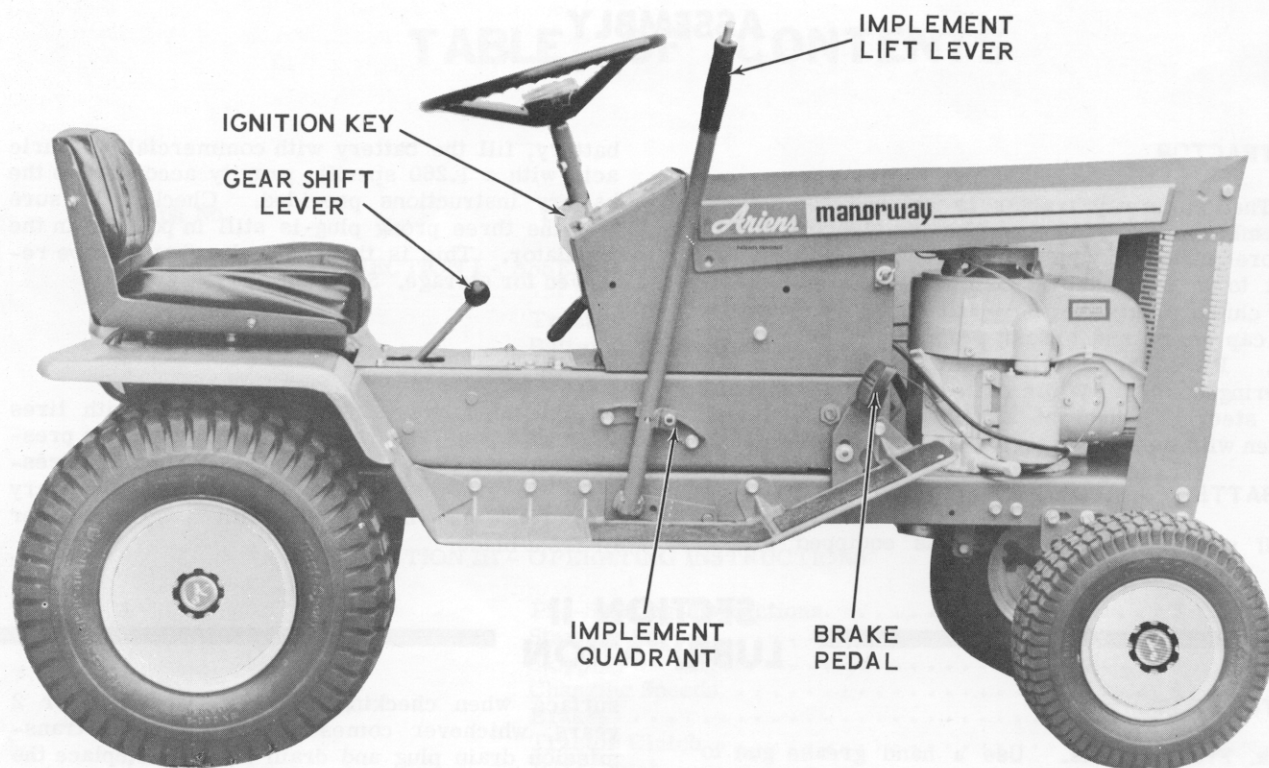

Figure 3
b. Depress the brake pedal and engage the parking brake. See figures 3 and 4.
Brakes are actuated by the pedal on the right side of the machine. If the tractor is to be stopped or parked, brake pedal should be depressed and the parking brake lever moved into the UP position. See figures 3 and 5.
The lift lever on the right side of the tractor is used to raise or lower the tractor attachments. See figure 3. Press the thumb release button and pull the lever toward the rear to raise mounted equipment. Move the lever forward to lower equipment. Removing pressure from the thumb release will permit the lever to lock into an indent and hold the equipment in a desired position. The attachment instructions will indicate the detent position for proper operation of the attachments.